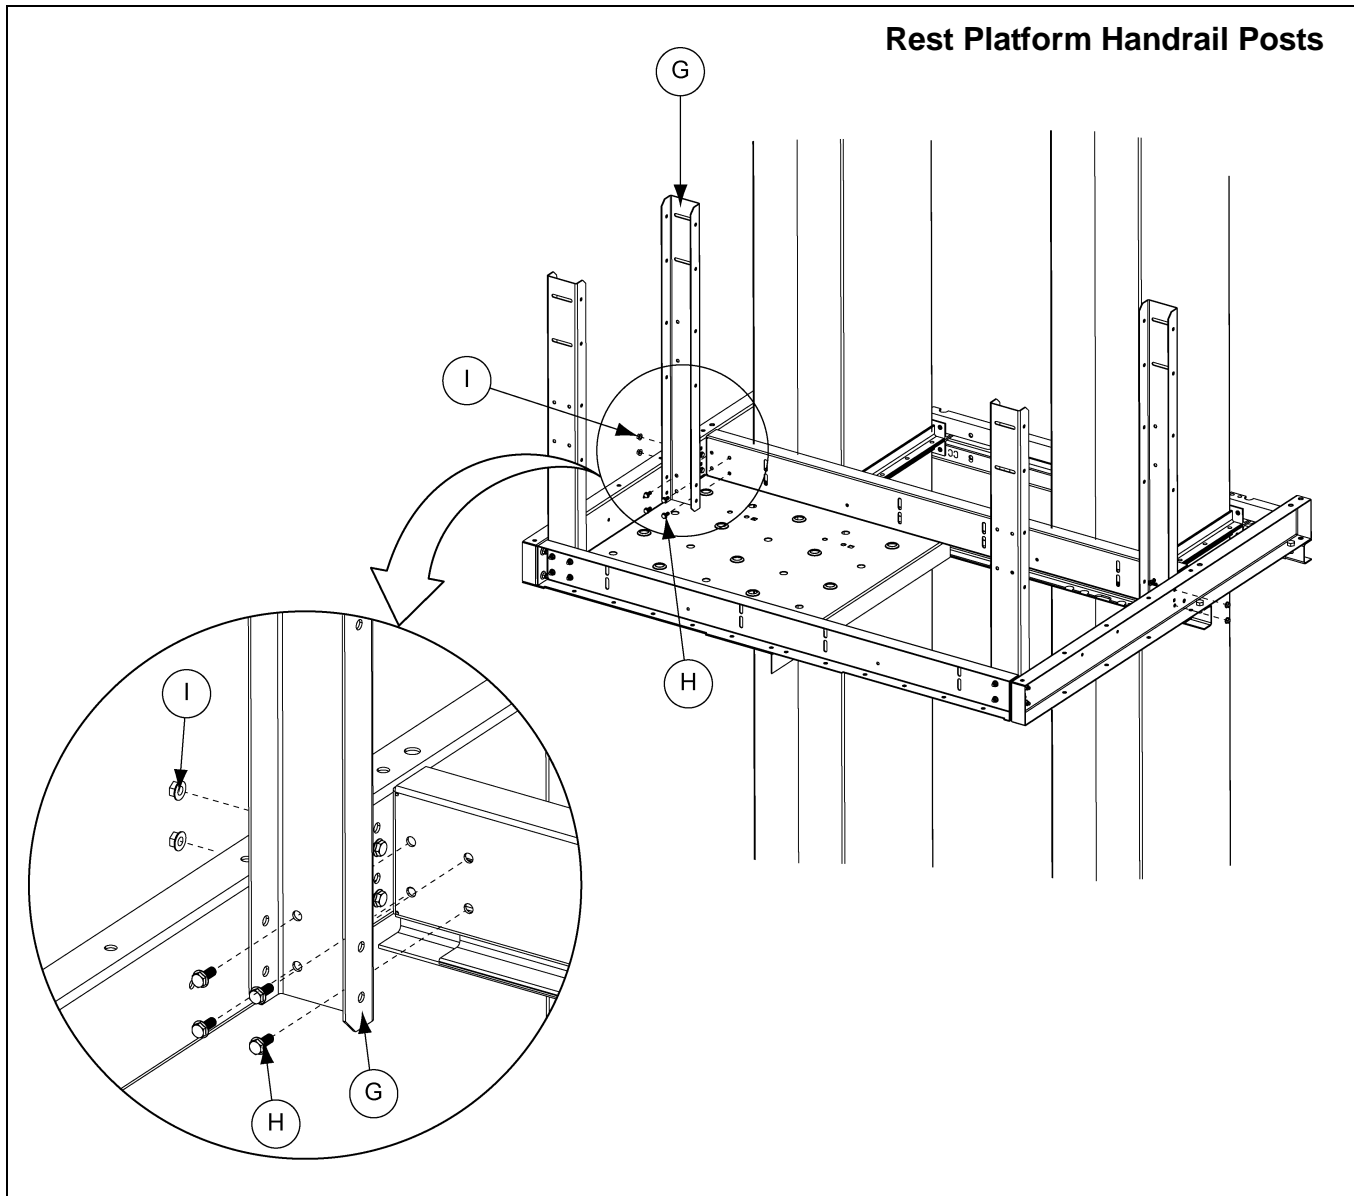

Figure 7H
3. Install the handrail platform posts (HP1648HCP) (G) to the rest platform mounting channels and rest platform channels using six (6) 5/16" x 3/4" flanged hex bolts (S-6606) (H) for each post, four (4) bolt to the front and two (2) on the side. (See Figure 7H.)